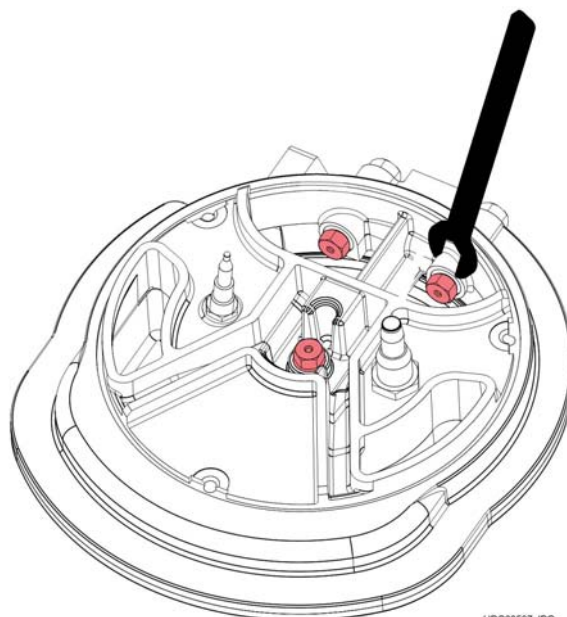

Fig. 37
4. Use a 7 inch spanner to unscrew and remove the nozzles from the side zones (see Fig. 37).